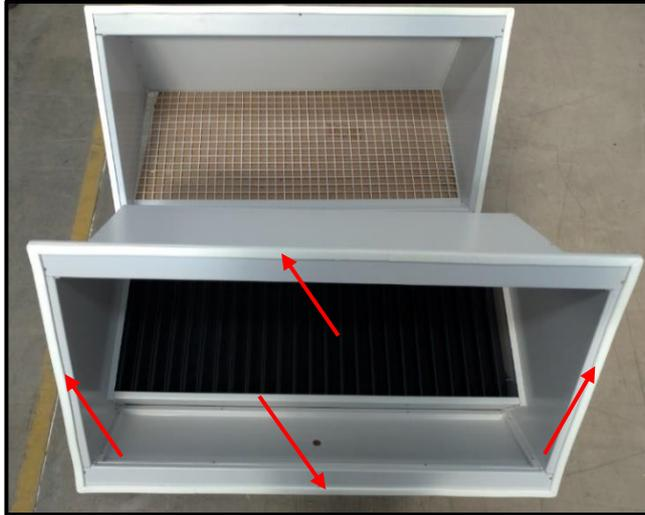

Fig. 142
1. Apply sealing strip on the sealing surface of the spigot (Fig. 142)